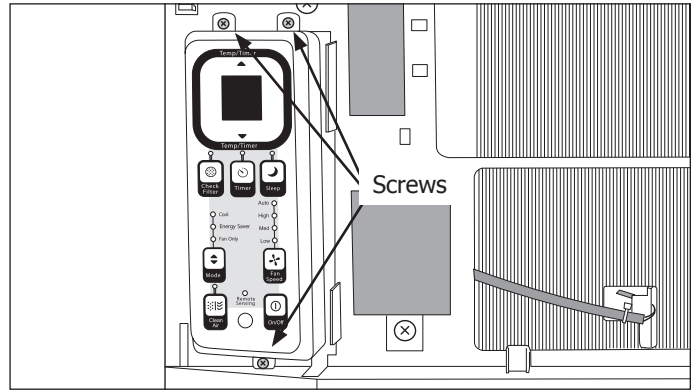

Figure 4-110.
The user interface can be removed from the front panel by extracting the 3 screws as shown in Figure 4-110, however, the user interface wiring harness will still be connected to the control panel. Accessing the control panel will be covered on page 4-43.
3. Extract the three screws, then turn the user interface and push through front panel. Front panel is now free. (See Figure 4-110)